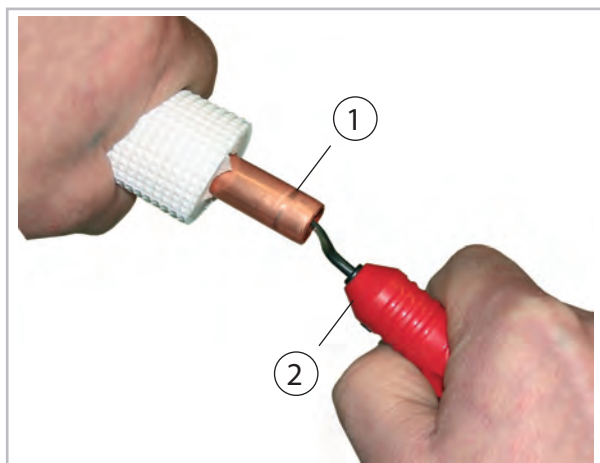
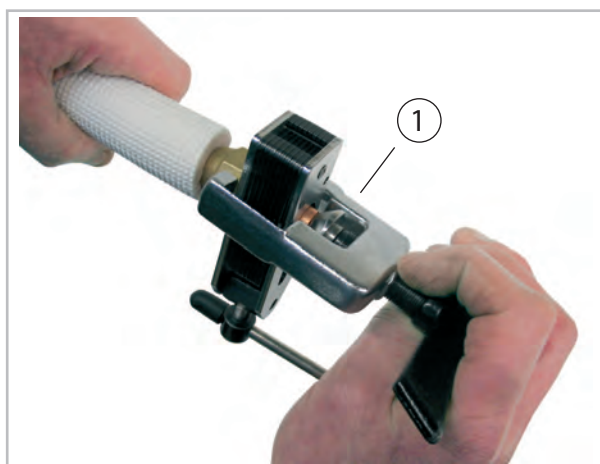

Fig. 18: Deburring the refrigerant piping
Fig. 19: Flanging the refrigerant piping
8. ➤ Prepare the laid refrigerant piping as shown below (Fig. 18 and Fig. 19).